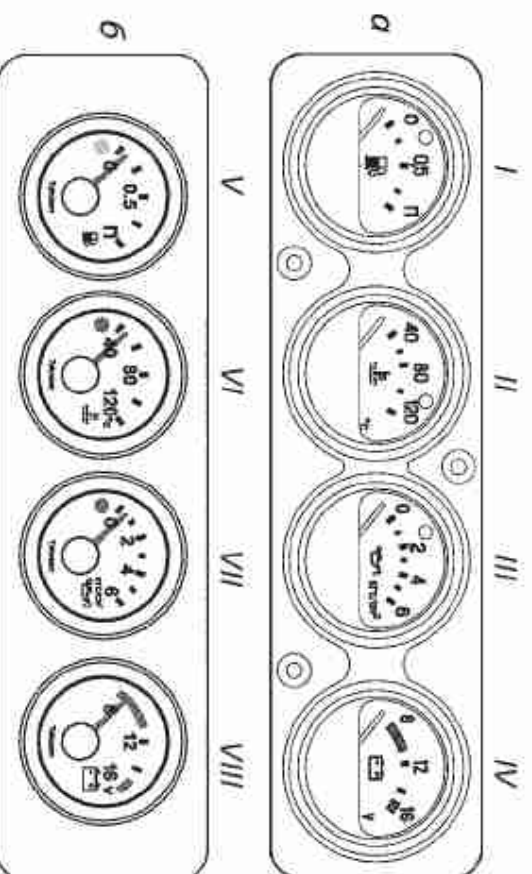

Fig. 3.3. Dashboard:
**7 — instrument panel** (Fig. 3.3).